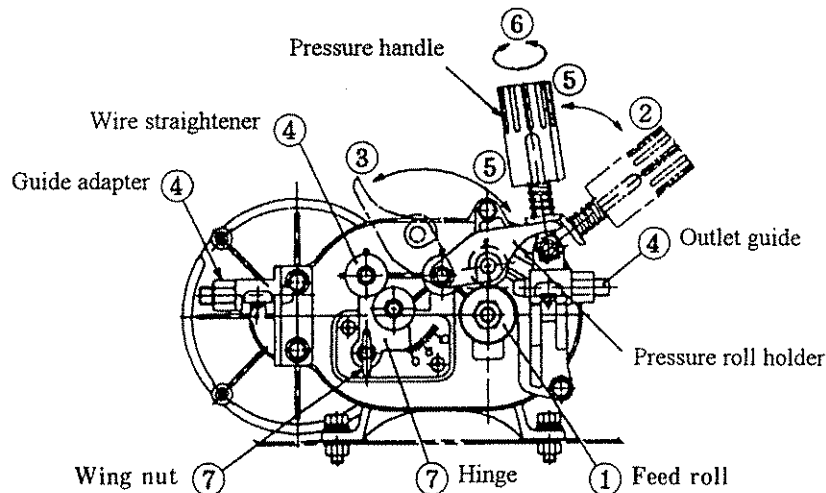

Fig.2 Installation of wire
2.1 Installation of wire (Refer to Fig.2 and Table 2.)